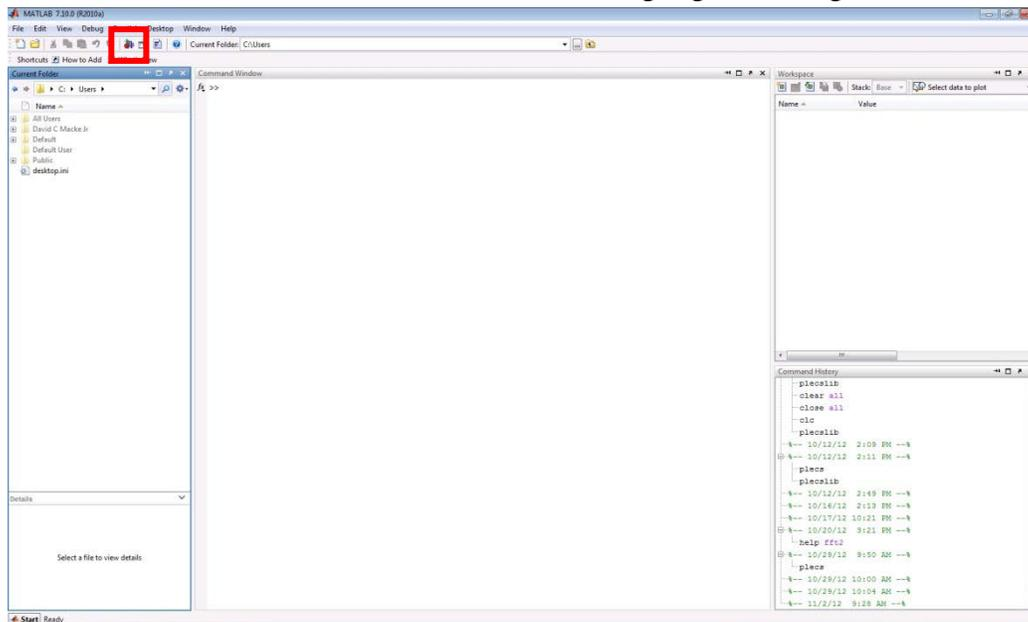

Figure 1: MATLAB Start Page
2. Open a new Simulink window by clicking on the Simulink button. The simulink button is in the top left of the MATLAB window. The Simulink icon is highlighted in Figure 1 shown below.